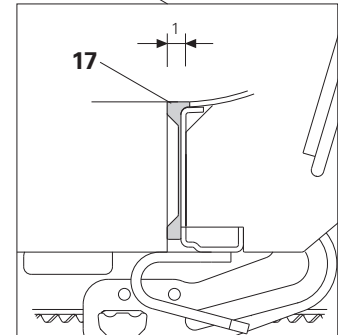

Fig. B2.01.1
1. Clamp the Adapter Strip SRS - TRIO (17) on the side of the formlining recess between the TRIO element and the Circular Column Panel.
2. Install Plugs Ø 20/24, Item no. 030300 in the column panel. (Fig. B2.01) The straight wall is extended thereby by 1 cm. (Fig. B2.01.1)